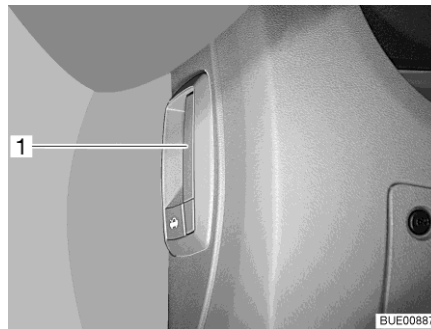

Fig. 41 Release lever for the bonnet (inside the vehicle)
- Pull the lever (Fig. 41,1) on the left under the dashboard or next to it.